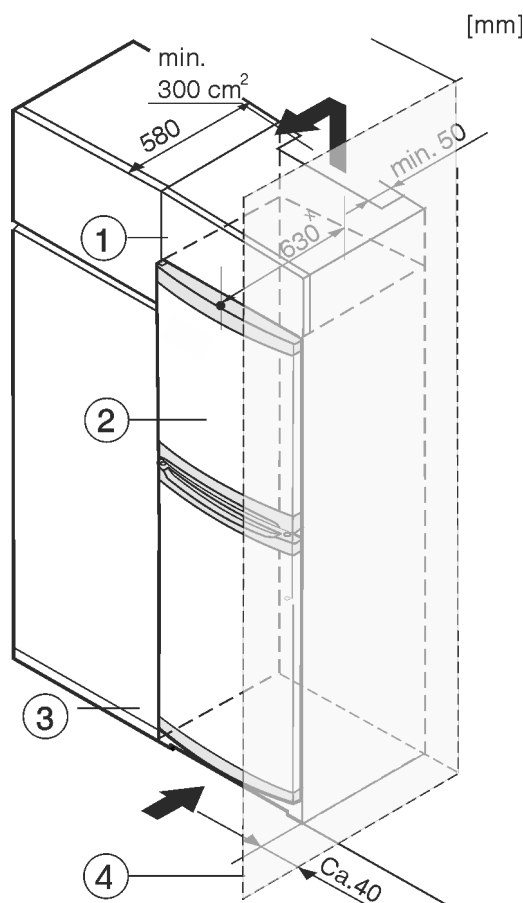

Fig. 8
- (1) Top cupboard
- (2) Appliance
- (3) Kitchen cabinet
- (4) Wall
The appliance can be built into kitchen units. A top cupboard Fig. 8 (2) can be added above the appliance in order to bring the appliance Fig. 8 (1) up to the height of the fitted kitchen units.
When fitting kitchen cupboards around the appliance (max. depth 580 mm), you can install the appliance directly next to the kitchen cupboard *Fig. 8 (3)*. The appliance protrudes 34 mm * to the side and 50 mm * in the centre of the appliance in relation to the kitchen cupboard front.
If the appliance is set up with the hinges next to a wall *Fig. 8 (4)*, the distance between the appliance and the wall must be at least 40 mm. This is how far the handle protrudes when the door is open.